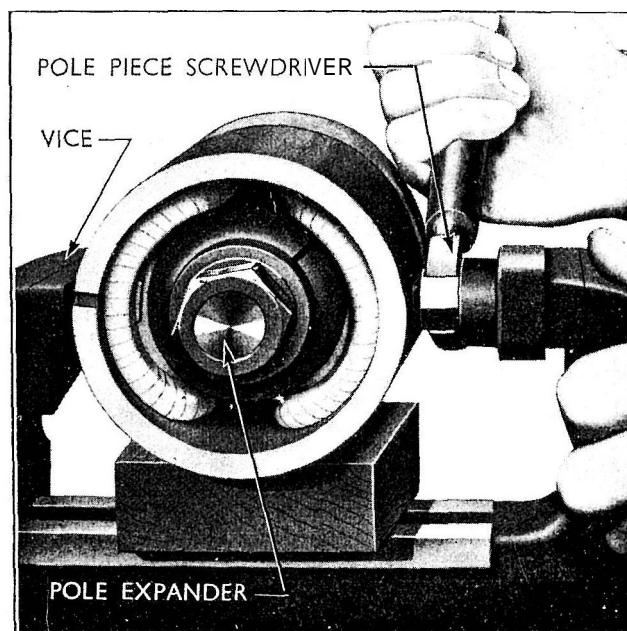

Fig. 240
- 6 Mount the yoke and pole piece screwdriver AT2/U 10044 in a vice, as shown in Fig. 240, when the pole piece screws can be slacked off and finally removed.